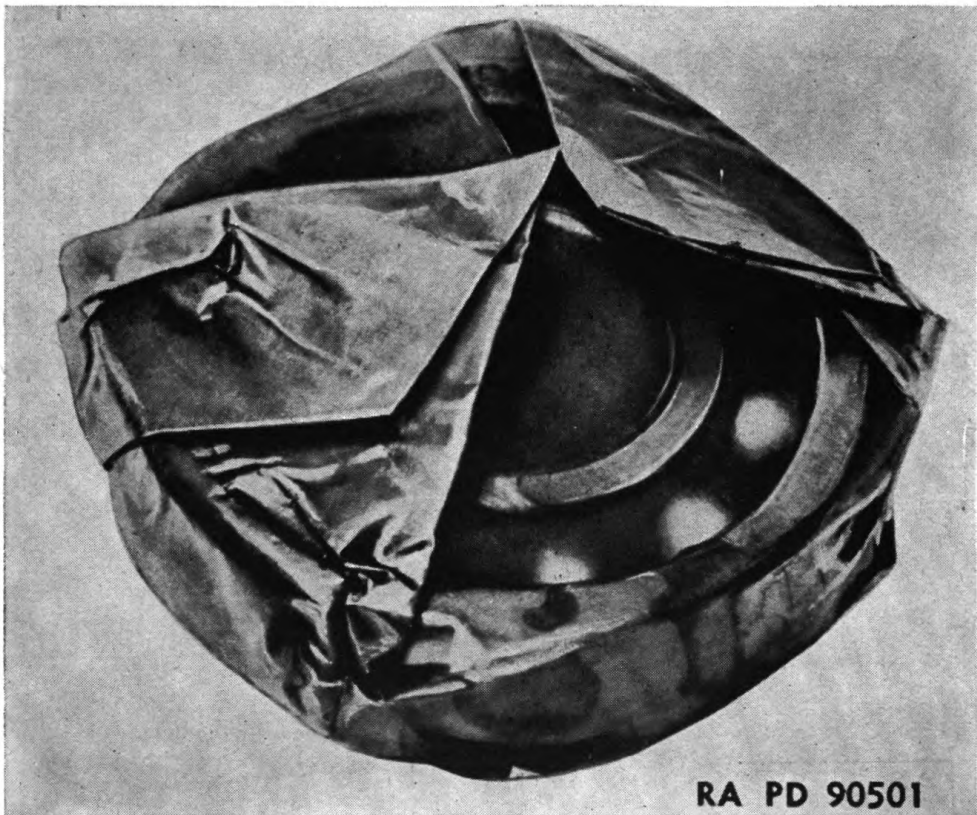

Figure 47. Wrap bearings in greaseproof wrapping paper to keep preservative from escaping before placing bearings in boxes or cartons.
(2) Wrap the bearings in greaseproof wrapping paper to retain the preservative on all surfaces. (See fig. 47.)
(3) Place in a clean box or carton and seal with nonhygroscopic adhesive tape.